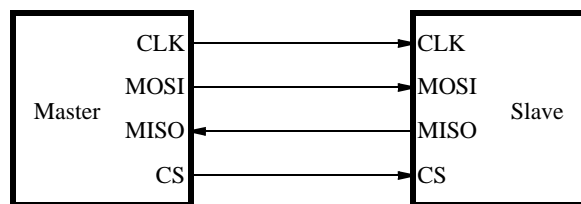

Figure 1: Diagram of SPI connecting a master and a slave.
The SPI comprises four wires, as shown in Figure 1. They are: clock (CLK), Master-Out Slave-In (MOSI), Master-In Slave-Out (MISO) and chip select (CS). The clock signal is generated by the master to synchronize the exchange of data. The MOSI line is used by the master to send commands and data to the slave, while the MISO line is used by the slave to respond to commands and send data back to the master. The fourth line, called chip select, enables or disables the slave device. When multiple slave devices are present, a separate chip select line is used for each slave.